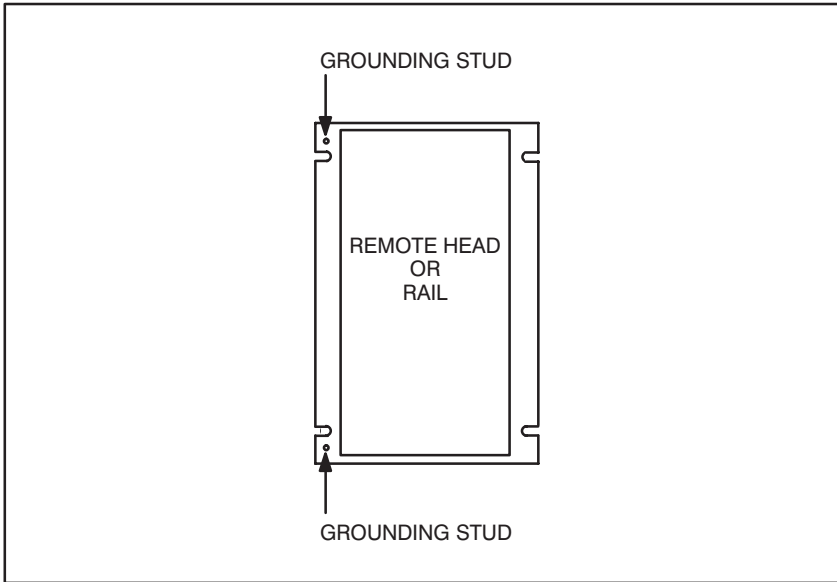

Figure 3.19 - Grounding Stud Location
- Step 3. Using figure 3.19, locate the two No. 10 studs provided on the Remote I/O Head for grounding purposes. The Remote I/O Head must be properly grounded to minimize personnel hazard and to ensure proper operation. The ground path, when using a 1KVA transformer, should have less than 10 milliohms resistance. The grounding wire must be a minimum size of 14 AWG. The insulation should be green for U.S.A. applications.
- Step 3. Using figure 3.19, locate the two No. 10 studs provided on the Remote Drive Interface Head for grounding purposes. The Remote Drive Interface Head must be properly grounded to minimize personnel hazard and to ensure proper operation. The ground path, when using a 1KVA transformer, should have less than 10 milliohms resistance. The grounding wire must be a minimum size of 14 AWG. The insulation should be green for U.S.A. applications.